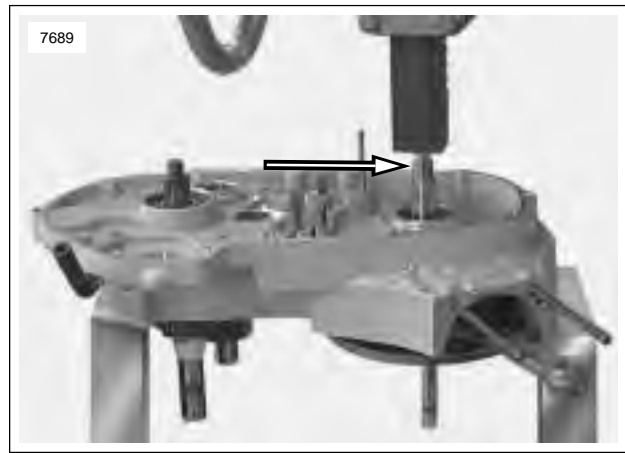

Figure 3-113. Pressing On End Of Sprocket Shaft To Remove Flywheel Assembly From Crankcase
9. See Figure 3-113. Mount the left crankcase half and flywheel assembly on a press table, supporting crankcase on parallel bars. Press on end of sprocket shaft with arbor press until flywheel assembly is free from crankcase half. Do not drive flywheel assembly from crankcase half as flywheels may be knocked out of alignment.